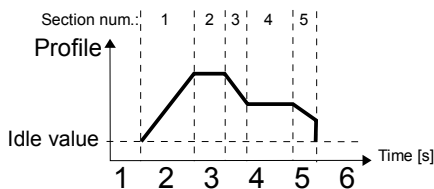
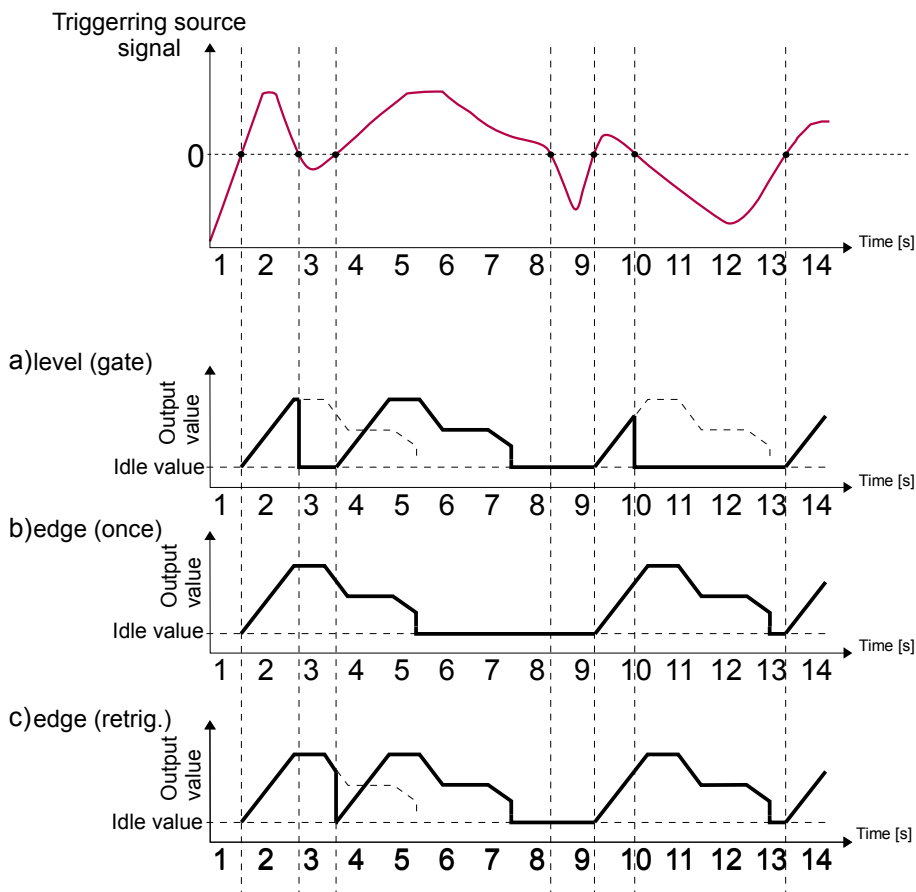

Fig. 7.88. Sample of Profile/timer
Fig. 7.89. Samples of **Profile** output waveforms defined in Fig. 7.88, triggered by signal selected in **Triggerring source** parameter
- **level (gate)** - this means that configured by user **Profile** is generated when source signal will have a value > 0 , otherwise (if source value ≤ 0) defined Profile will not be generated, see example **a**) in the Fig. 7.88 and Fig. 7.89,
- **edge (once)** - this means that configured by user **Profile** will be triggered by rising edge signal (from values ≤ 0 to the value > 0) from source signal. After the rise edge the **Profile** will be generated in whole (once), regardless of further changes to the signal source, see example **b**) in the Fig. 7.88 and Fig. 7.89,
- **edge (re-triggering)** - this means that configured by user **Profile** will be triggered by rising edge signal (from values ≤ 0 to the value > 0) come from source signal. However, in this mode, unlike the **edge (once)** mode a defined **Profile** will be generated from the beginning every time when the **Triggering source** signal will generate a edge, whether that Profile had been completed or not, see example **c**) in the Fig. 7.88 and Fig. 7.89,